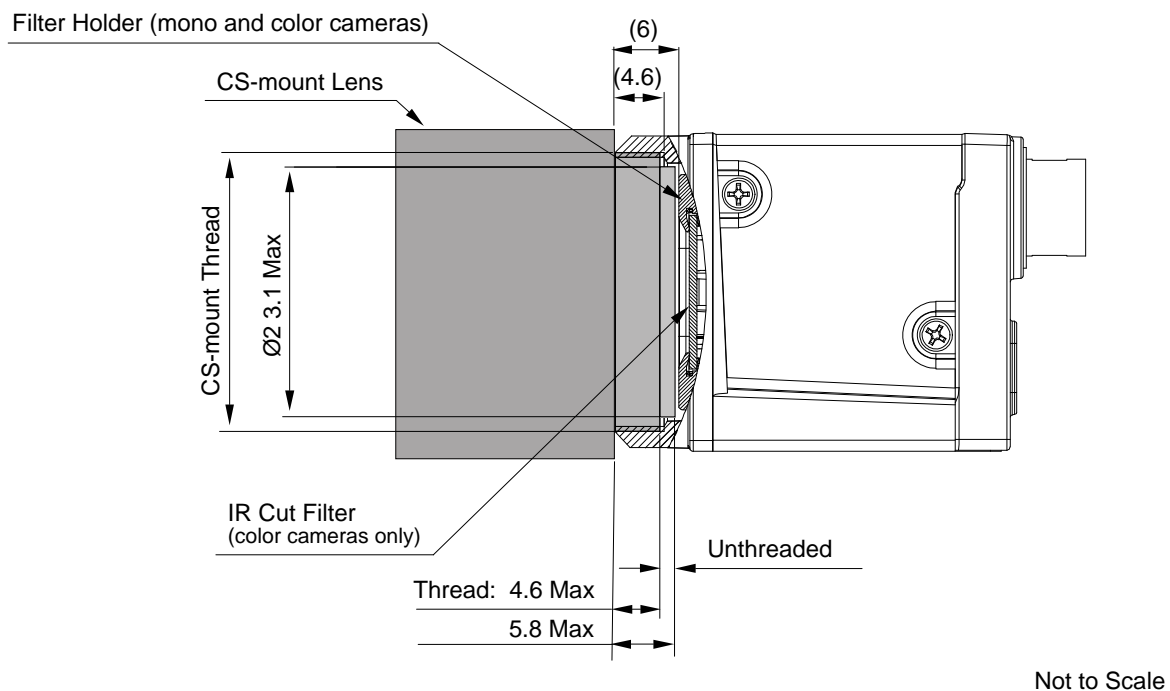

Fig. 26: Maximum Lens Thread Length (Dimensions in mm) for Cameras with the CS-mount
- Camera with CS-mount (see Figure 26):